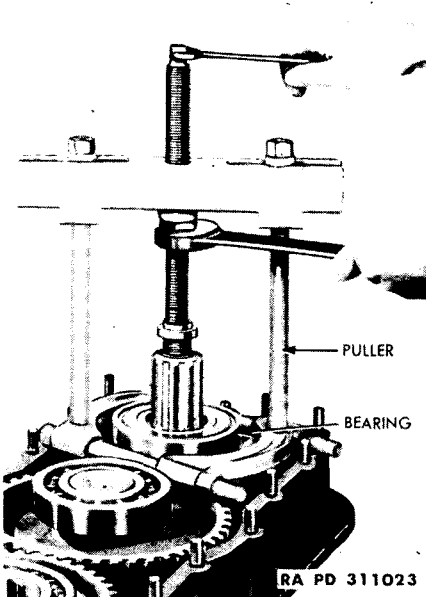
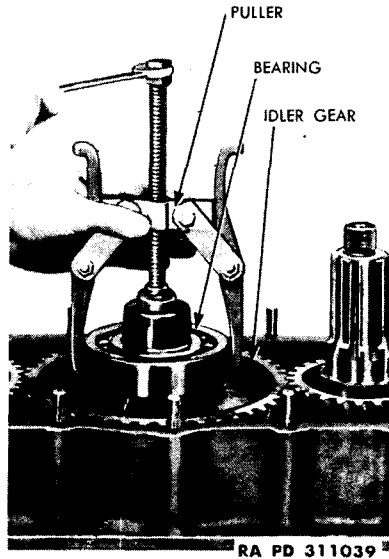

Figure 24 — Removing Transfer Case Output Gear Bearing, Using Puller 41-D-2905-60
Figure 25 — Removing Transfer Case Idler Gear Bearing, Using Puller 41-P-2911
(3) **REMOVE GEARS, BEARINGS, AND CAPS.** Remove bearing cage at upper input gear, using two cap screws in tapped holes in cage flange. Remove transfer case cover from transfer case. Remove oil thrower from output shaft. Pull bearing from output gear, using puller (41-D-2905-60) (fig. 24). Pull bearings from input gear and idler gear, using puller (41-P-2911) (fig. 25).